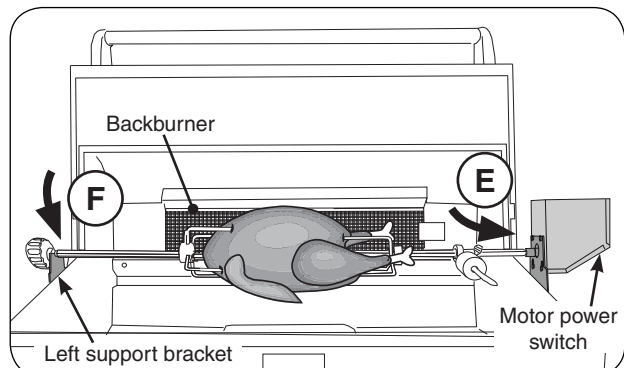

Fig. 29-4 Attach Rotisserie rod to motor
10. Insert the pointed-end of the rod into the motor drive socket (see Fig. 29-4, E). Then rest rod groove (next to the knob) into the left support bracket (see Fig. 29-4, F).